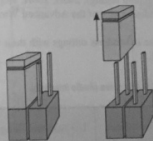

Figure 3-3: Removing the Jumper Block.
4. Remove the jumper blocks from the jumpers as shown in Figure 3-3.